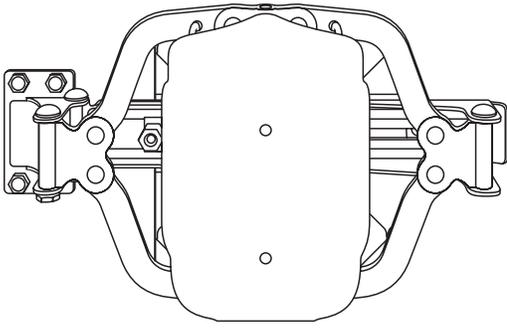

figure 5
6. Snap on the **Cover** over the **Cylinder** with the curved section up. Your installation is now complete (figure 5).